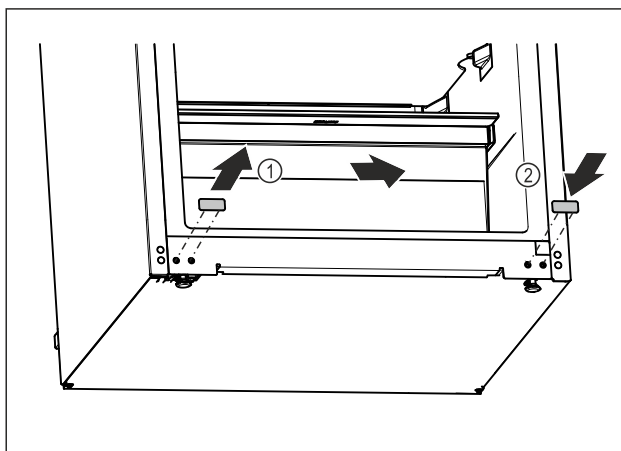

Fig. 18
- ▶ Pull out the cover plug. Fig. 18 (1)
- ▶ Insert the cover plug on the opposite side. Fig. 18 (2)